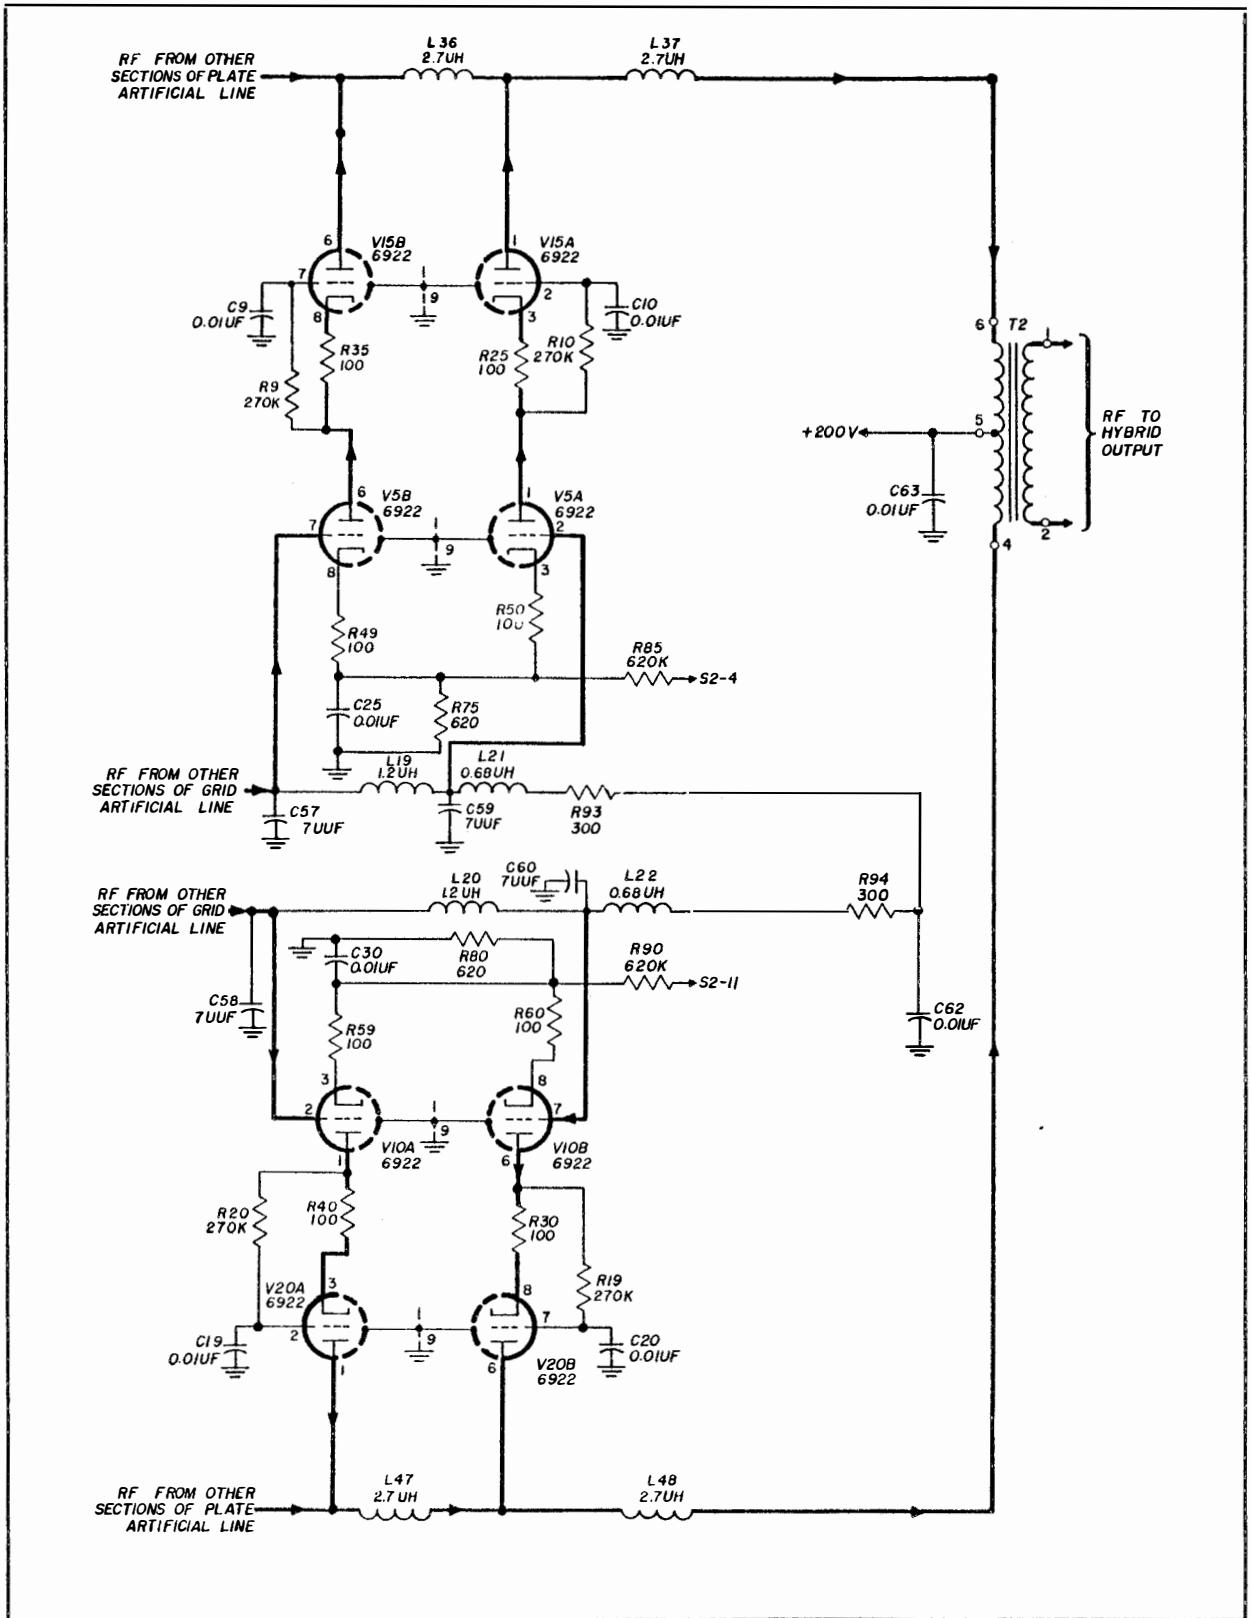

Figure 4-2. Antenna Coupler CU-872/U, Distributed Amplifier, Simplified Schematic Diagram
c. Since the circuits of the five push-pull distributed amplifier sections shown in figure 6-1 are identical, only the section consisting of tubes V5, V15, V10, V20 and their associated circuits will be discussed. A simplified schematic of the fifth section of the distributed amplifier is shown in figure 4-2.